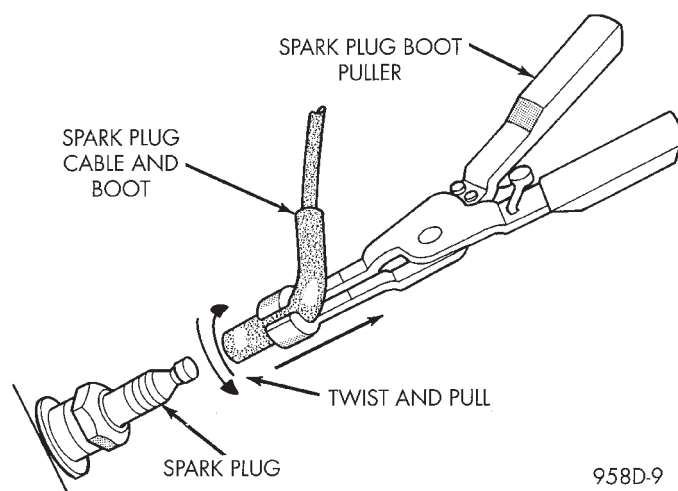

Fig. 22 Cable Removal
CAUTION: When disconnecting a high voltage cable from a spark plug or from the distributor cap, twist the rubber boot slightly (1/2 turn) to break it loose (Fig. 22). Grasp the boot (not the cable) and pull it off with a steady, even force.
(1) Always remove spark plug or ignition coil cables by grasping at the cable boot (Fig. 22). Turn the cable boot 1/2 turn and pull straight back in a steady motion. Never pull directly on the cable. Internal damage to cable will result.